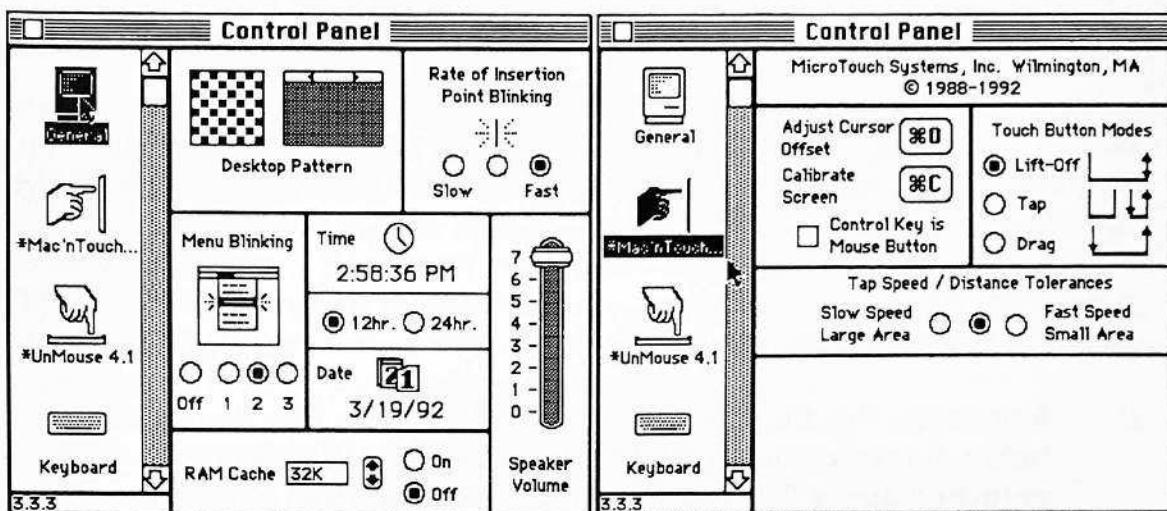
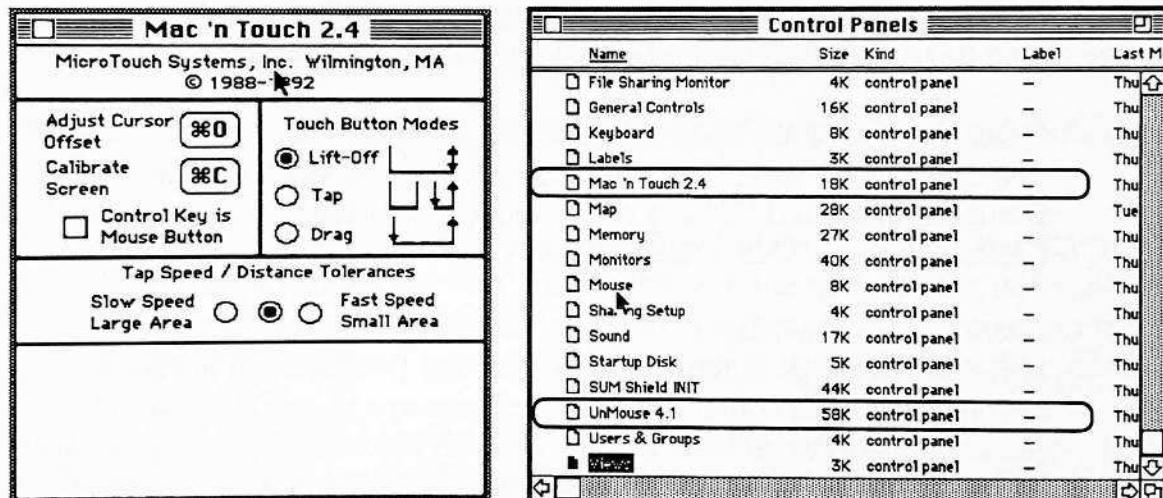

Figure 1: Mac 'n Touch Control Panel for System 6.0x
Figure 2: Mac 'n Touch Control Panel for System 7
| Figure 1: | Mac 'n Touch Control Panel for System 6.0x | 7 |
| Figure 2: | Mac 'n Touch Control Panel for System 7 | 7 |
- 4) To verify installation, touch the screen and check the cursor's location under your finger and see that it follows as you move across the screen. Move out to each corner and edge of the image screen and see if the cursor follows. Check the center of the screen and note the cursor position. Try accessing the Mac 'n Touch Control Panel. Pull down the **Apple** icon at the far left of the menubar and select "Control Panels." Highlight the **Mac 'n Touch** icon which appears. The Mac 'n Touch Control Panel will open up (See Figure 1). For System 7, the Control Panel can be accessed as above, under the Apple, or you can select the Mac 'n Touch item in the "Control Panels" folder in an open "System Folder" Window (see Figure 2).